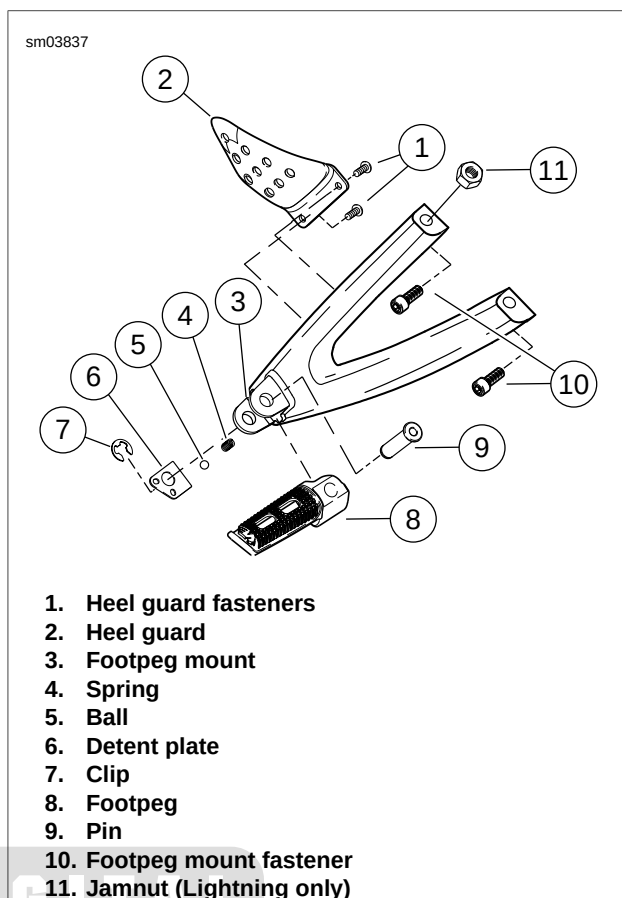

Figure 2-156. Passenger Footpeg, Mount and Heel Guard Assembly: Lightning
1. See Figure 2-156. Remove clip (7).
2. Remove footpeg pin (9).
3. Remove footpeg (8), detent plate (6), ball (5) and spring (4).
1. See Figure 2-156. Remove heel guard fasteners (1).
2. Remove heel guard (2).
1. See Figure 2-156. Remove footpeg mount fasteners (10).
2. Remove footpeg mount (3).
1. See Figure 2-156. Position footpeg mount (3) onto sub-frame tail assembly.
2. Install footpeg mount (3). Using LOCTITE 271 tighten, fasteners (10) to 25-28 ft-lbs (34-38 Nm).
1. See Figure 2-156. Position heel guard (2) onto footpeg mounts (3).
2. Install heel guard (2).
1. See Figure 2-156. Position footpeg (8), detent plate (6), ball (5), and spring (4) on to footpeg mount (3).
2. Install footpeg pin (9).
3. Install clip (7).